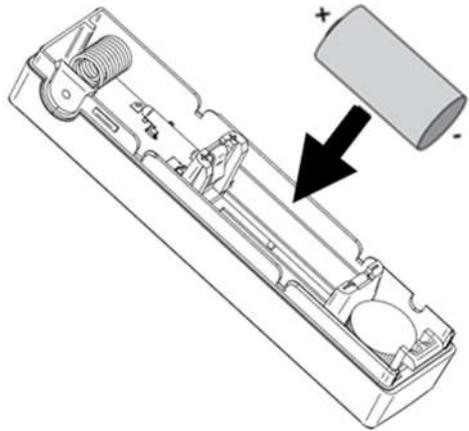

Figure 3
5. Place a battery as instructed in Figure 3 and wait until the Red / Green LED stops blinking.